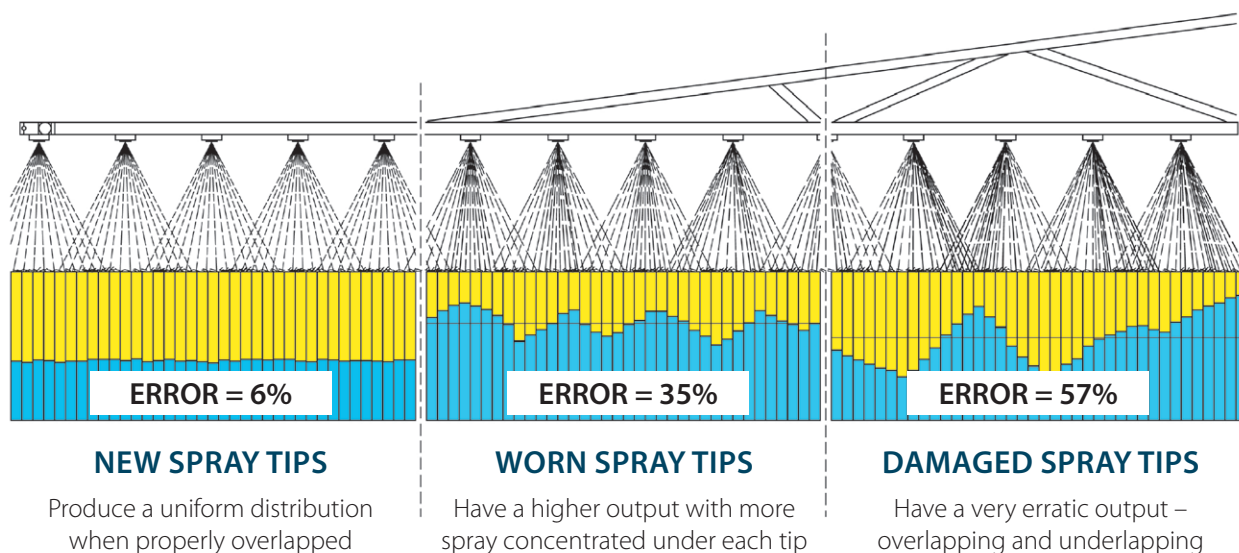

Figure 2
All equipment has some level of variability based on its design and condition. For example, the nozzles on a fertilizer sprayer will not spray an equal volume across their whole range and this error will be compounded as nozzles become worn and damaged (See Figure 2). As a result, sprayers are designed for overlap at the outer spray zone of each nozzle. As well, the nozzles on either end of the sprayer will have reduced output on their outer edge.
- Four passes with fertilizer will result in a more uniform application than just one pass (recall Figure 2).